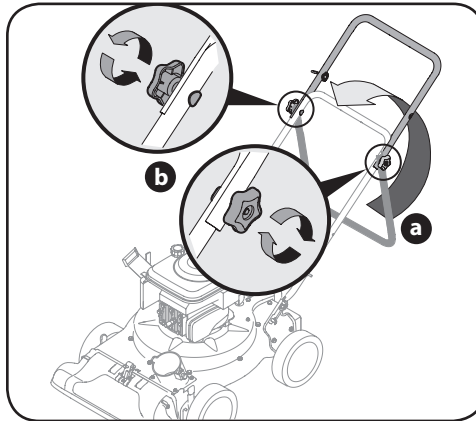

Figure 3-2
2. Unfold the upper handle until it aligns with lower handle. Make sure the rope guide is on the right side of upper handle. See A in Figure 3-2.
3. Secure the two handles by tightening the star knobs (carriage bolts must be seated properly into the handle). See B in Figure 3-2.